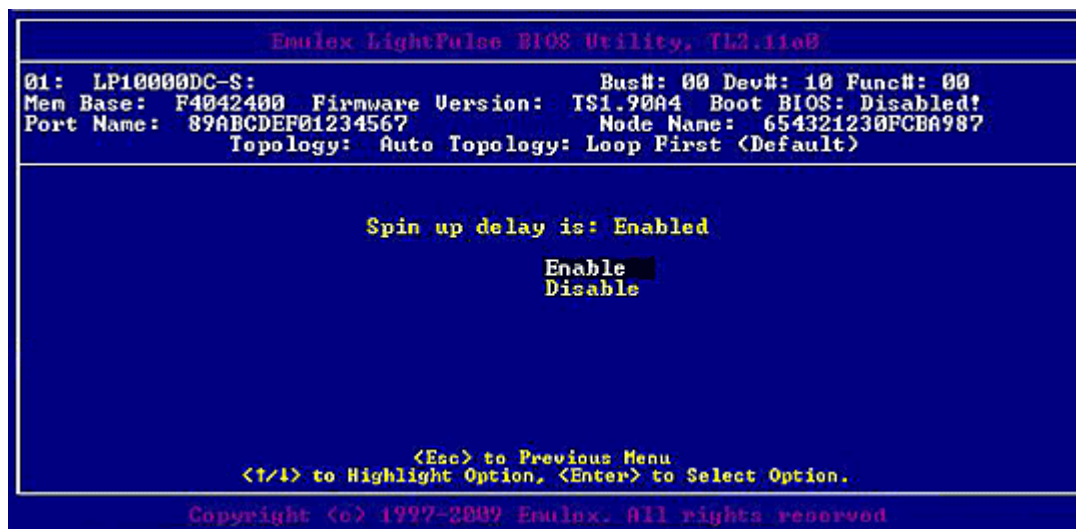

Figure 4-13 Enable or Disable Spinup Delay Screen
2. Select **Enable or Disable Spinup Delay**. Information similar to Figure 4-13 is displayed.